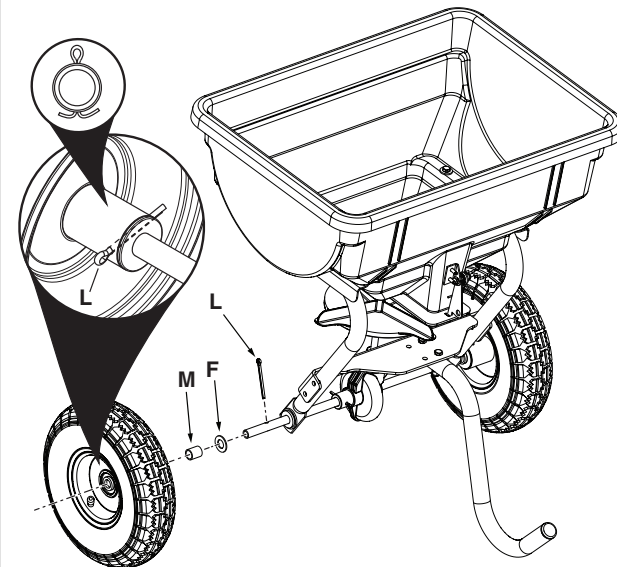

Figure 9
STEP 9: (SEE FIGURE 9)
- Attach the other wheel to the left side by sliding onto the axle, a 17/32" washer (F), a plastic spacer (M) and a wheel (1). Secure the wheel to the axle by inserting the 2" cotter pin (L) through the hole in the inside of the wheel and through the axle. Secure by bending the ends out.